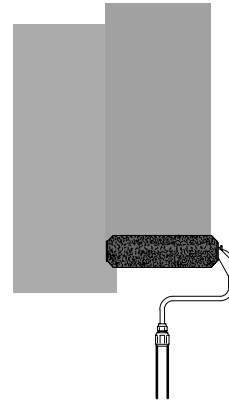

Fig. 4
3. Finish with light, vertical strokes until the entire area has been covered, evenly. (Fig. 4.)